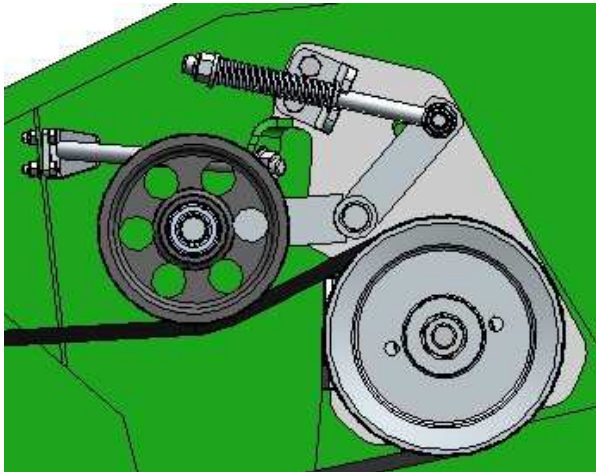

Figure 23
- Secure the header extension drive shaft to the supports on the belt set housing (Figure 23).